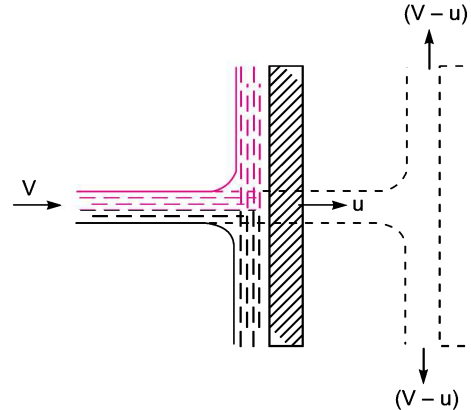

Fig. 17.10 Jet striking a flat vertical moving plate.
**17.4.1 Force on Flat Vertical Plate Moving in the Direction of Jet.** Fig. 17.10 shows a jet of water striking a flat vertical plate moving with a uniform velocity away from the jet.